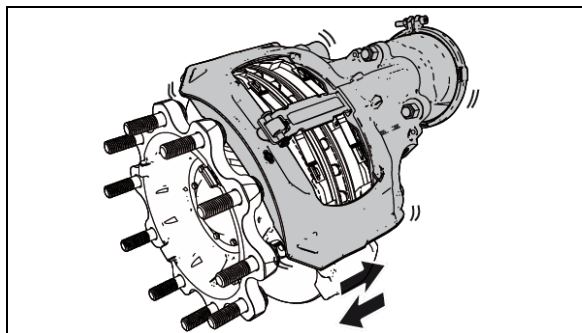

Figure 89: running clearance
3. By pushing and pulling the caliper in an axial direction by hand (see arrows in Figure 89), a movement of 0.6 - 1.1 mm must be possible.